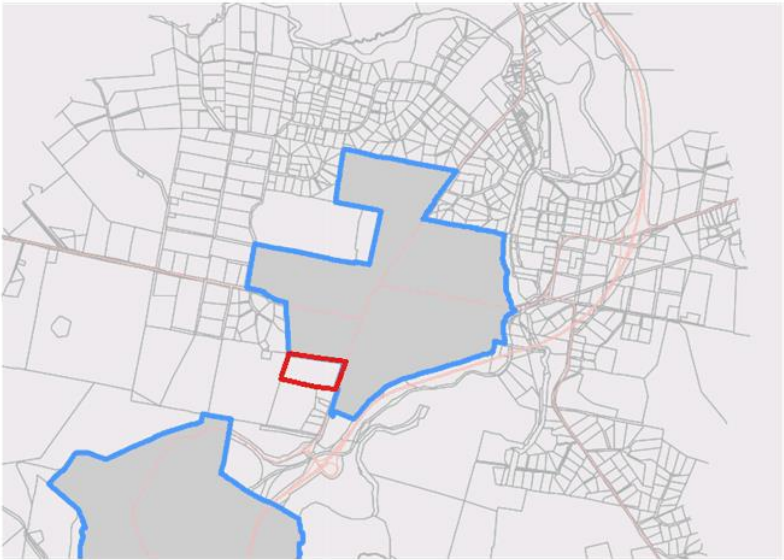

Figure 3: The red border depicts the proposed extension of the UGB over 69 Brighton Rd.
- 6.2. It is proposed that the STRLUS be amended by expanding the UGB by approximately 11.27ha to include part of 69 Brighton Road. The proposed area to be added to the UGB is shown bound in red in Figure 3.